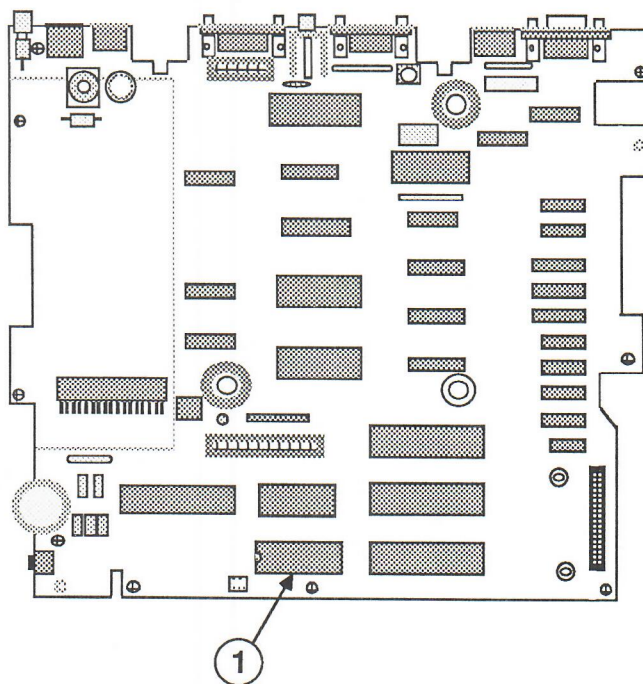

FIGURE 13
4. Locate the ROM at location D19 (Figure 13, #1) and verify that it is the old ROM (P/N 342-0445-A).
5. Using an IC extractor, remove the old ROM installed at location D19 (Figure 13, #1).
6. Install the new ROM in the same location, D19 (Figure 13, #1). There is a notch at one end of the ROM. This notch should line up with the white dot on the logic board.